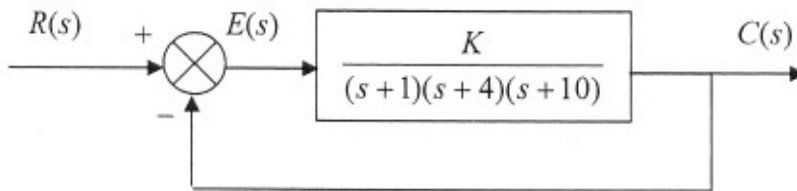

Figure 2
4. [Marks: 20] Given the unity feedback system of Figure 2, do the following for the system: